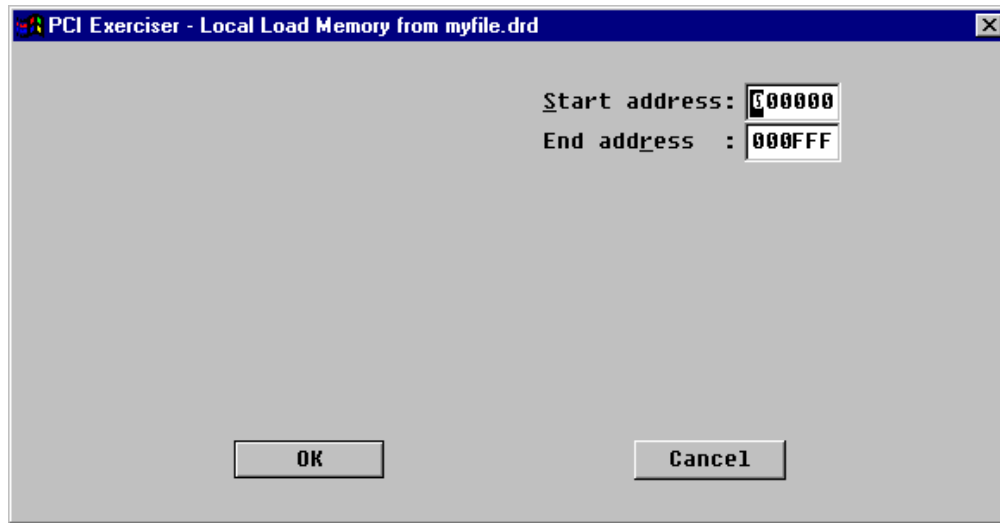

Figure 6.48 Local Load command
**Local menu:** Select **Load Memory from File** from the **Local** menu, and a dialog box requesting a file name appears. Select the file to load, and press the **OK** button. The dialog box in Figure 6.48 appears.
In the above example (see Figure 6.48), 0x1000 bytes of data will be loaded from the file **myfile.drd** to **Local User Memory**, starting from local address **0x0**.